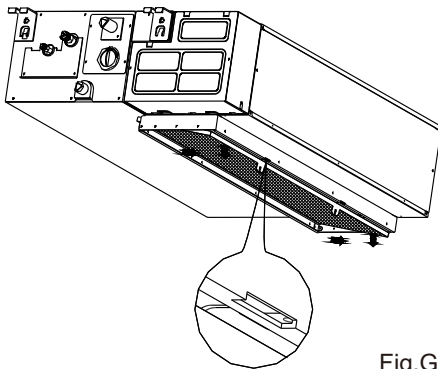

Fig.G2
2. For a bottom return air configured unit, please push the filter up slightly to remove it from the filter retainer. Remove the filter in the direction of the arrows as shown in Fig. G2